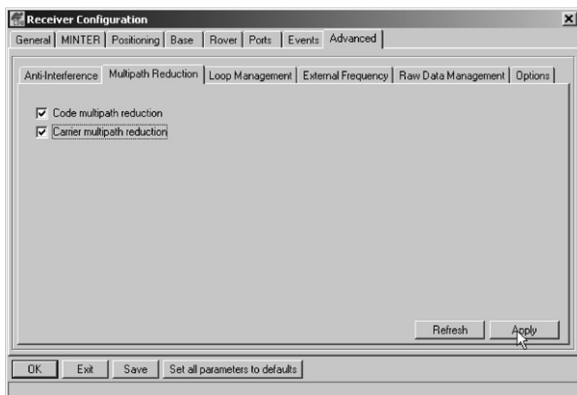

Figure 2-9. Advanced Configuration – Multipath Reduction
- Click the **Multipath Reduction** tab, enable the following boxes, and click **Apply** (Figure 2-9 on page 2-11):